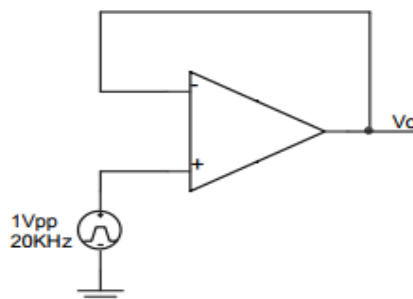

Figure 3: Circuit for Slew rate measurement
1. Connect the circuit of Figure 3.